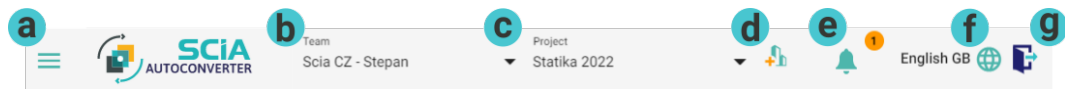

Figure 3: Top Bar description
1. Top Bar Top bar content is not changing based on the selected workflow and always stays the same. The top bar is used for general navigation in team and project, language settings and notifications. Let's look at the components one by one. (Figure 3)